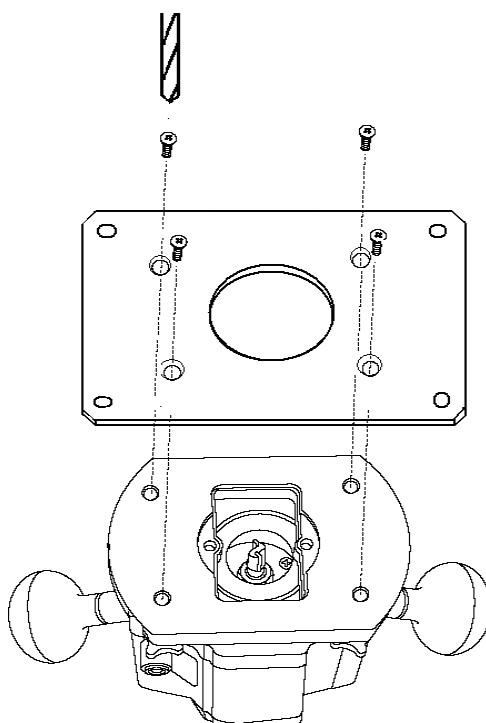

**Fig 15**
**Assemble the Mitre Gauge (Fig 15):**